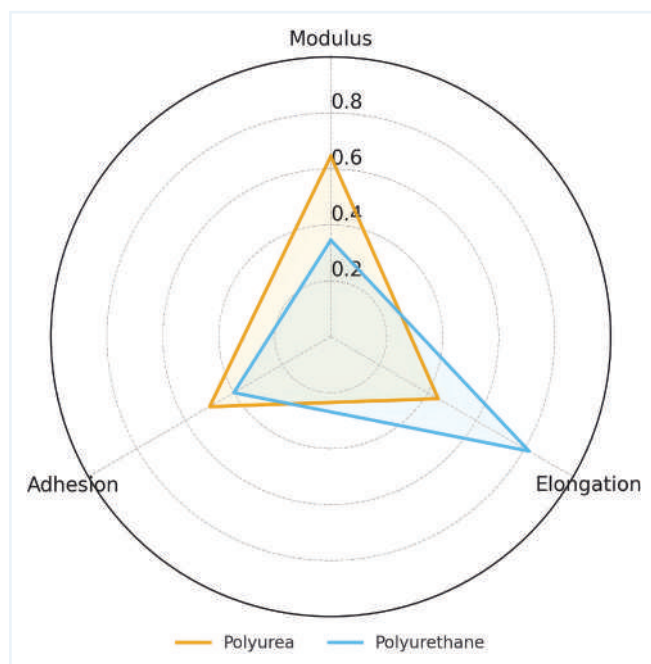

Figure 1. Modulus-elongation-adhesion triangle: Polyurea vs. polyurethane (normalized; modulus shown illustratively as an inverse proxy of elongation).
Laboratory testing per ASTM D412 (tension and elongation) and ASTM D624 (tear) shows distinct profiles (see Figure 1; Table 1).
For formulators, anchor decisions to: (1) Cure kinetics vs schedule; (2) Modulus and elongation vs. movement; (3) Chemical profile vs pH and chlorination; (4) Moisture conditions vs primer strategy, (5) Installed cost vs equipment and waste. Use Figure 1 and Table 1 (page 39) as quick proxies when aligning chemistry to service conditions. **PCI**